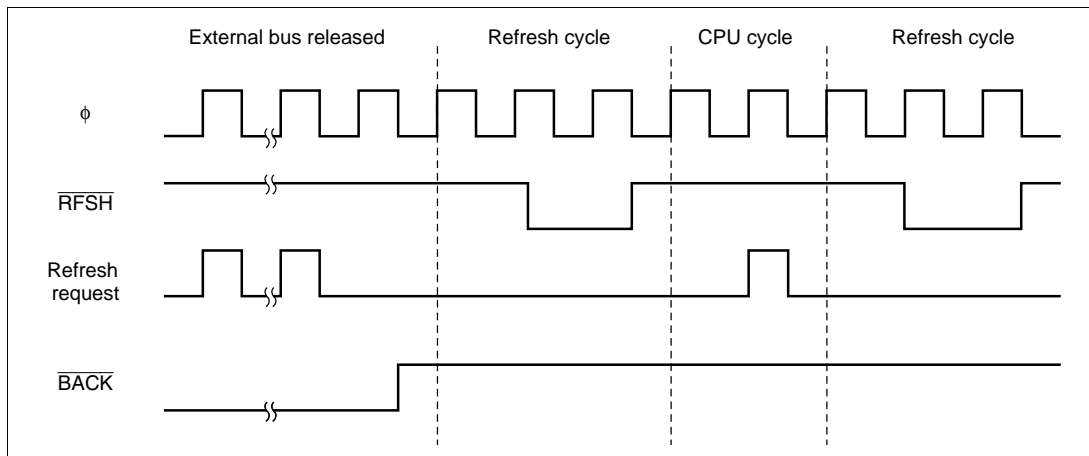

Figure 6.33 Bus-Released State and Refresh Cycles
- If a refresh request is generated internally while the external bus is released, the first request is retained and a single refresh cycle will be executed after the bus-released state is cleared. Figure 6.33 shows the bus cycle in this case.